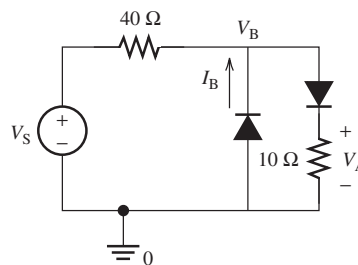

FIGURE P8.12 Circuit for Problem 8.12.
- 8.12 (A) Write the expression of I_B in the terms of voltage across the 10- Ω resistor, V_A , that is shown in Figure P8.12. Assume that both diodes are on and that V_S is 10 V.